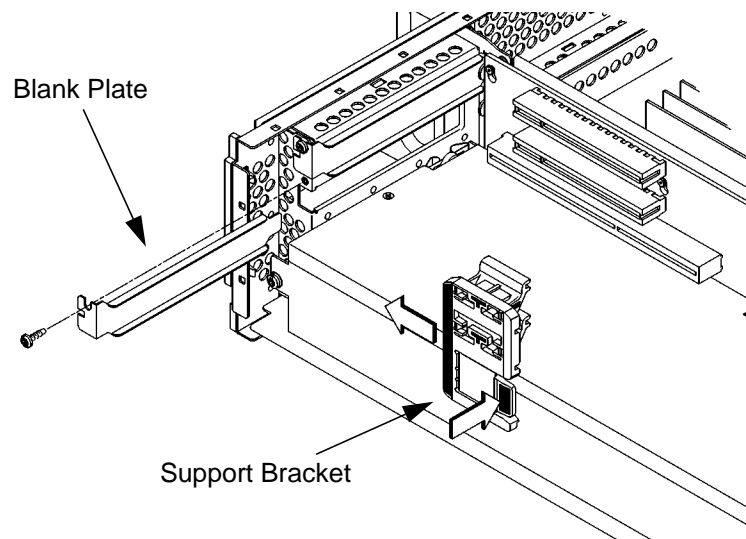

Figure 53
- 1 Push in the locking tab and slide the option board support bracket toward the rear of the main tray to remove it, as shown in Figure 53.
- 2 Remove the blank plate retaining screw, then remove the blank plate, as shown in Figure 53.